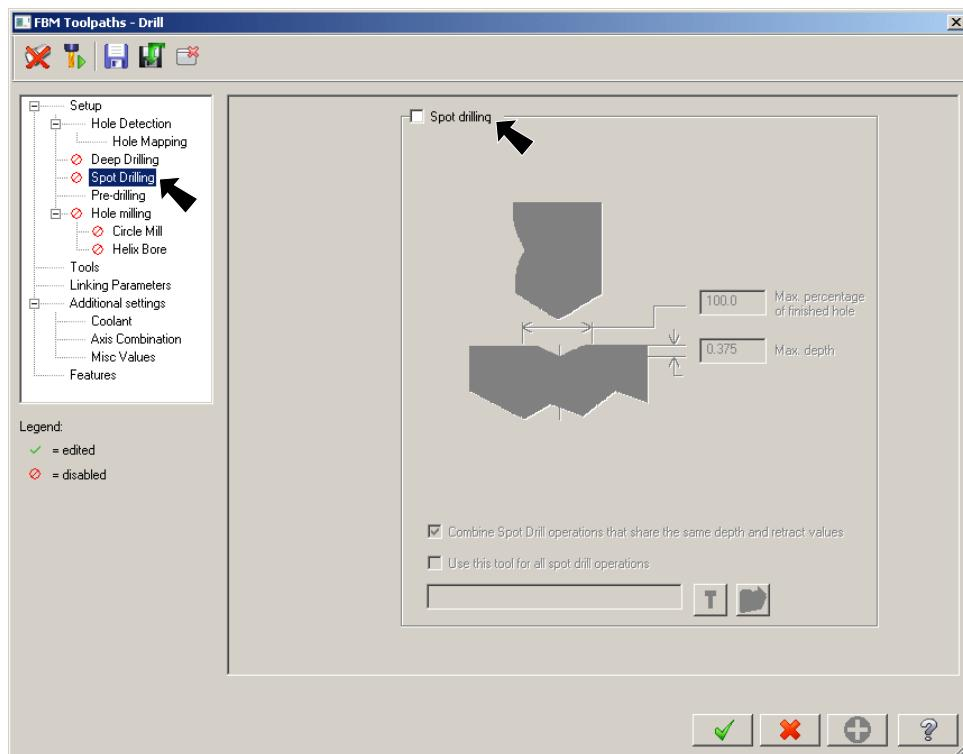

Fig. 102
Step 4. Select **Spot Drilling** from the tree control and uncheck **Spot Drilling** check box, **Fig. 102.**